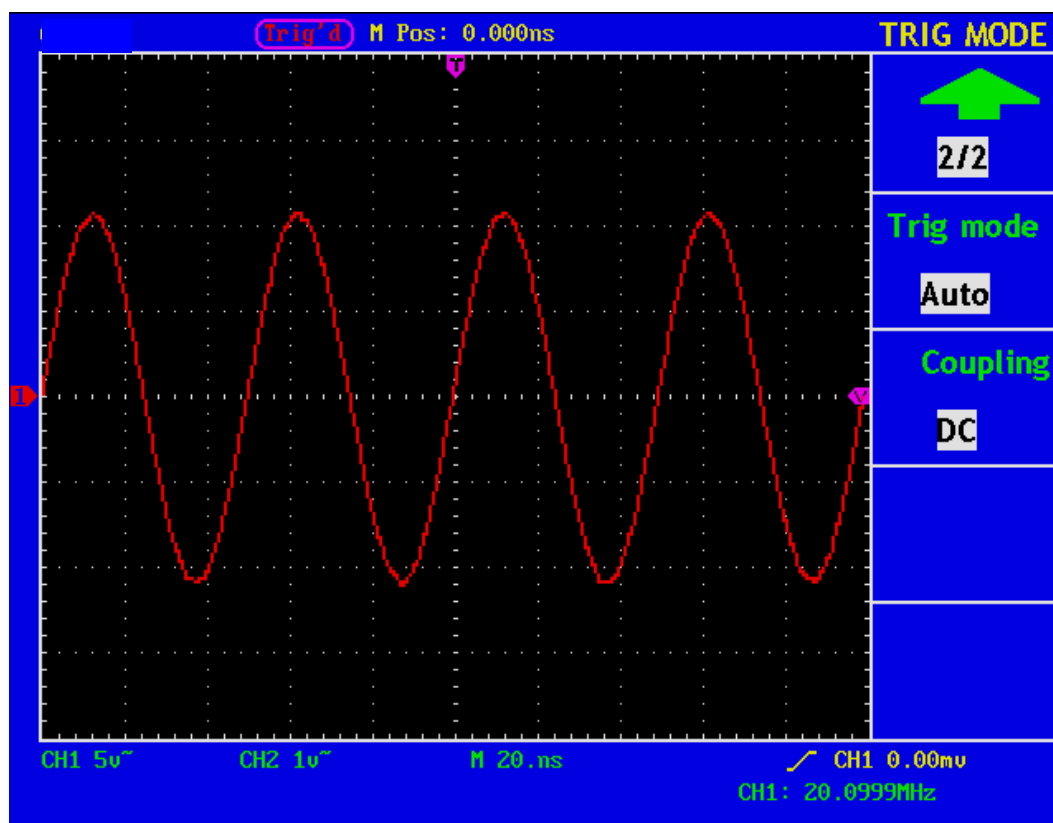

Fig. 35 Edge trigger (Rising Wave, the second menu)
- 8、Press “F3” to choose coupling as “DC”(refer to Fig.35)